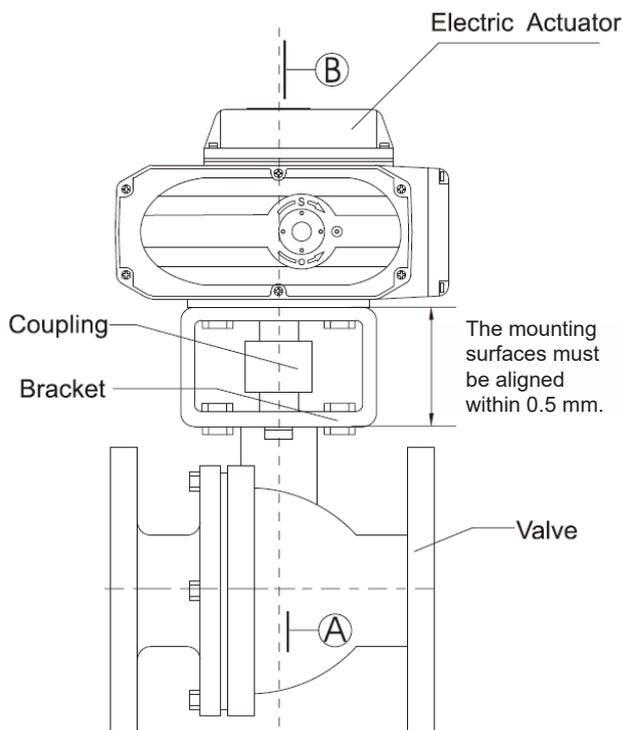

Fig. 4
- The bracket and coupling must be designed and manufactured by qualified mechanical technicians and must meet the requirements shown in Fig. 4.